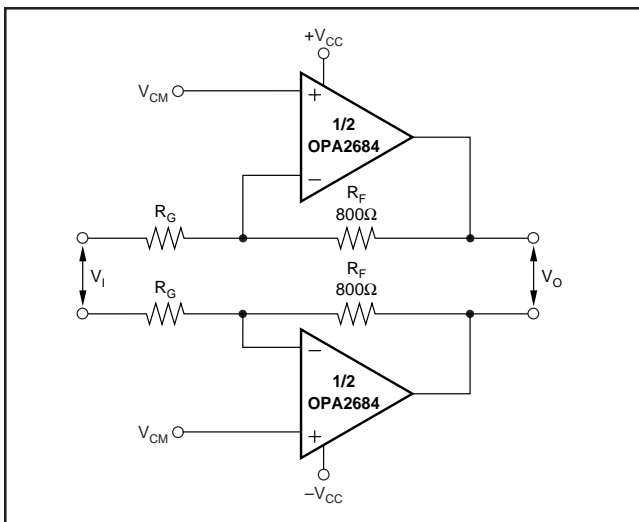
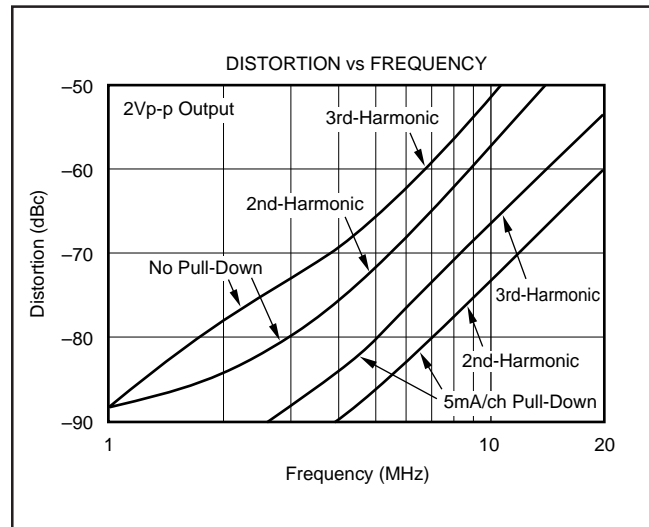
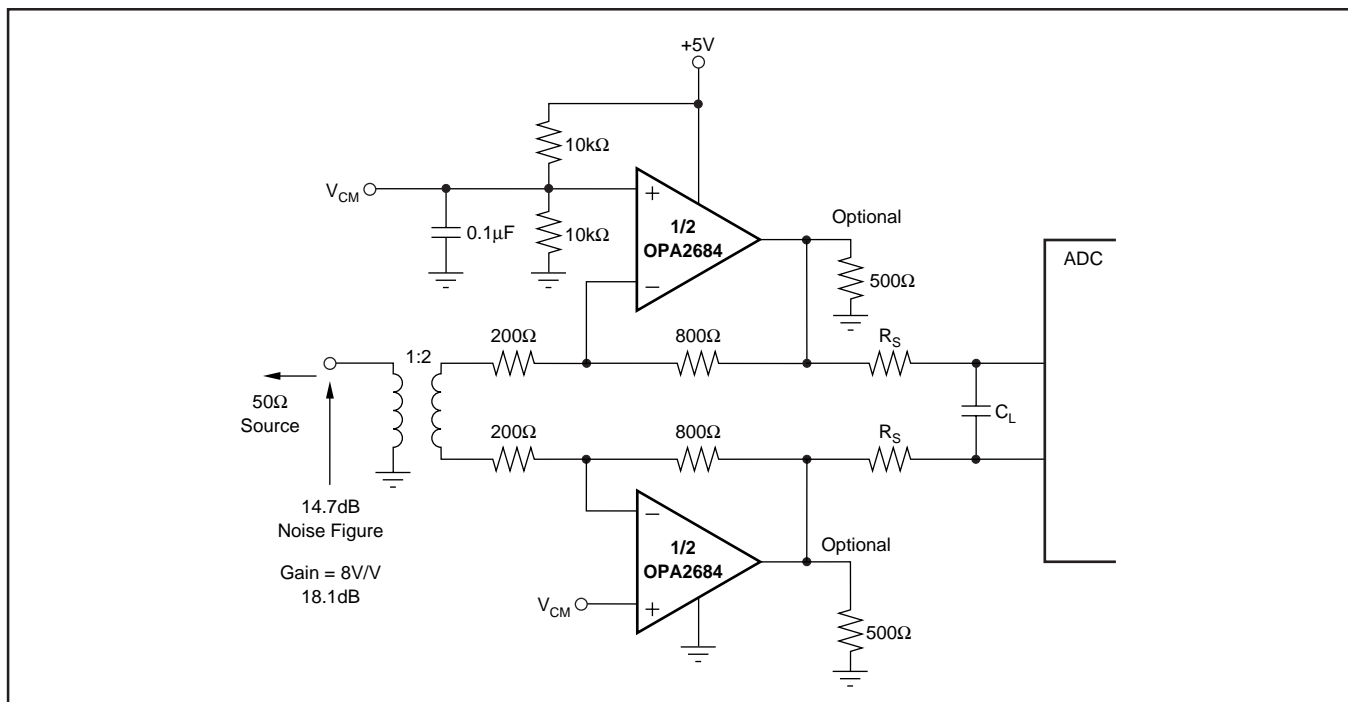

FIGURE 6. Inverting Differential I/O Amplifier.
FIGURE 12. Measured Harmonic Distortion for the Circuit of Figure 11.
FIGURE 11. Single-Supply Differential ADC Driver.
Figure 6 shows a differential I/O stage configured as an inverting amplifier. In this case, the gain resistors (RG) become part of the input resistance for the source. This provides a better noise performance than the noninverting configuration but does limit the flexibility in setting the input impedance separately from the gain.
Where a very low power differential I/O interface to a moderate performance ADC is required, the circuit of Figure 11 may be considered. The circuit builds on the inverting differential I/O configuration of Figure 6 by adding the input transformer and the output low-pass filter. The input transformer provides a single-to-differential conversion where the input signal is still very low power—it also provides a gain of 2 and removes any common-mode signal from the inputs. This single +5V design sets a midpoint bias from the supply at each of the noninverting inputs.
This circuit also includes optional 500Ω pull-down resistors at the output. With a 2.5V DC common-mode operating point (set by  $V_{CM}$ ), this will add 5mA to ground in the output stage. This essentially powers up the NPN side of the output stage significantly reducing distortion. It is important for good 2nd-order distortion to connect the grounds of these two resistors at the same point to minimize ground plane current for the differential output signal. Figure 12 shows the measured 2nd- and 3rd-harmonic distortion for the circuit of Figure 11 with and without the pull-down resistors.